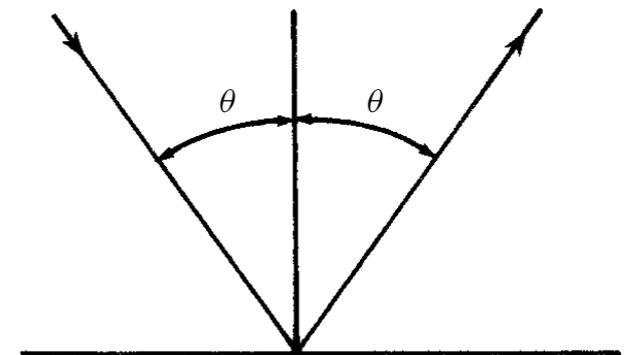
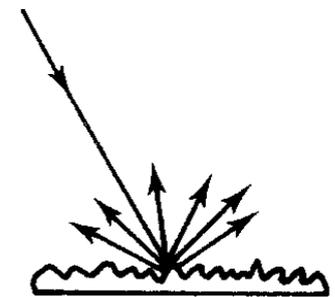

Figure 1.8 The law of reflection
Figure 1.9 Scattering from a rough surface
2. Reflection. On reflection from a mirror, the angle of reflection is equal to the angle of incidence (see Figure 1.8). In this context we mention that on reflection (scattering) from a rough surface (roughness $>\lambda$) the light will be scattered in all directions (see Figure 1.9).